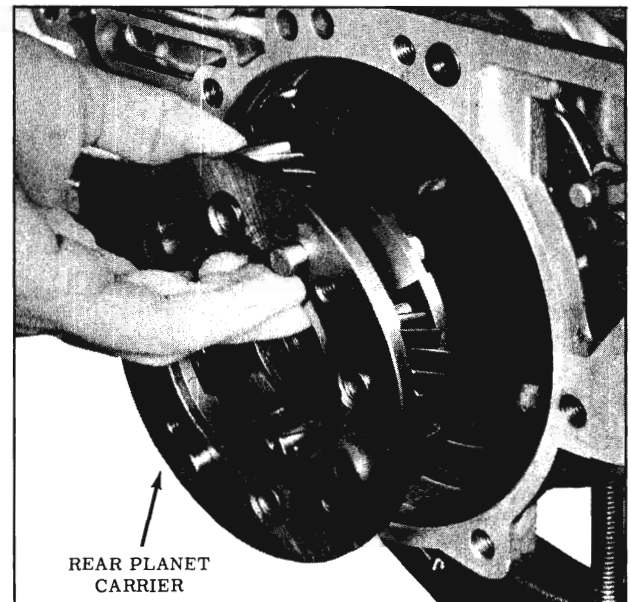

Fig. 3-41 Removing Rear Carrier
4. Remove the rear carrier and shaft assembly from the rear of the transmission. (Fig. 3-41)